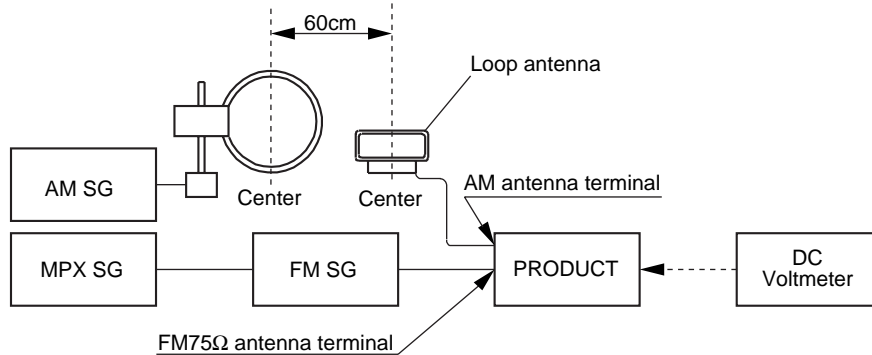

Fig.3 AM and FM Adjustment Wiring Diagram
- Connect the wiring as shown in Fig. 3.